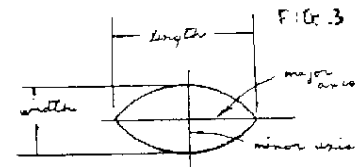

FIG. 3
1. Determine the size of marquise that can be obtained from your rough. Using a millimeter caliper determine the desired major axis (length) and the desired minor axis (width) of the planned gem. [see fig. 3]